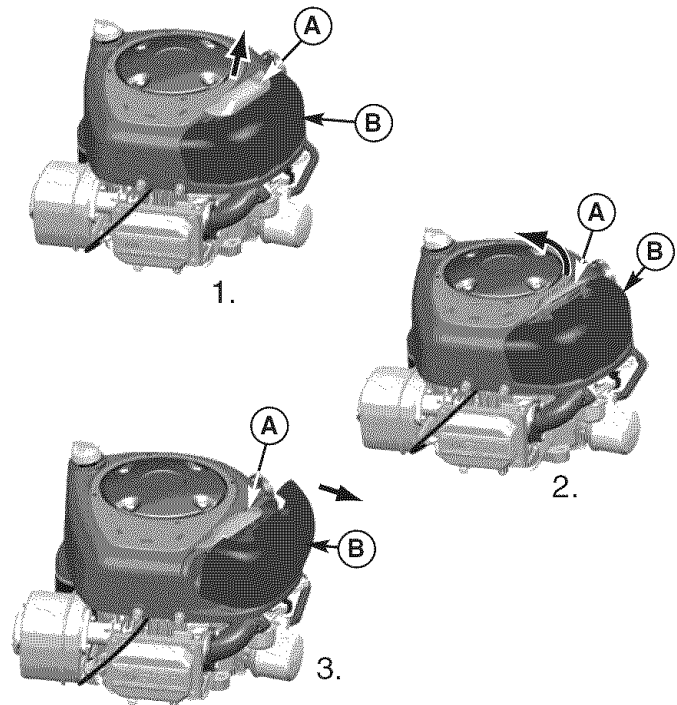

Figure 26. Air Filter Assembly - Briggs & Stratton Single Cylinder Models
1. Lift up on the bottom of the latch (A, Figure 26 or 27) and flip the latch away from the cover.